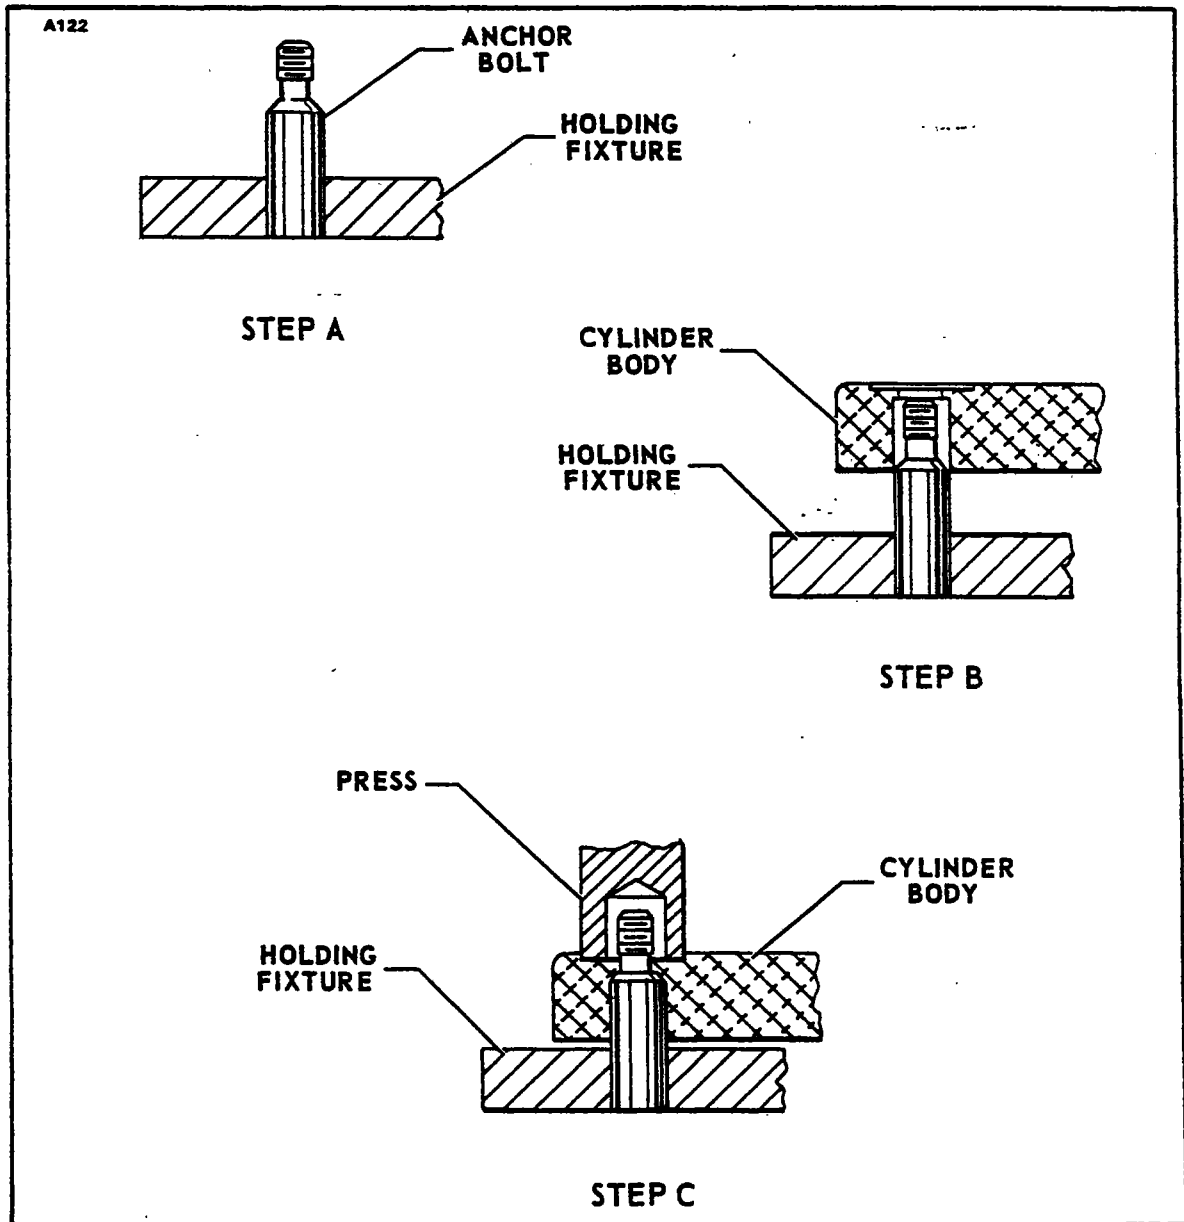

Figure 7-12. Installation of Anchor Bolt
1. Support Anchor Bolt in a holding fixture. (Refer to Figure 7-12. Step A.)
2. Align cylinder body over anchor bolt. (Refer to Figure 7-12. Step B.)
3. Use a suitable arbor press and apply pressure on the spot face directly over the anchor bolt hole. (Refer to Figure 7-12. Step C.)